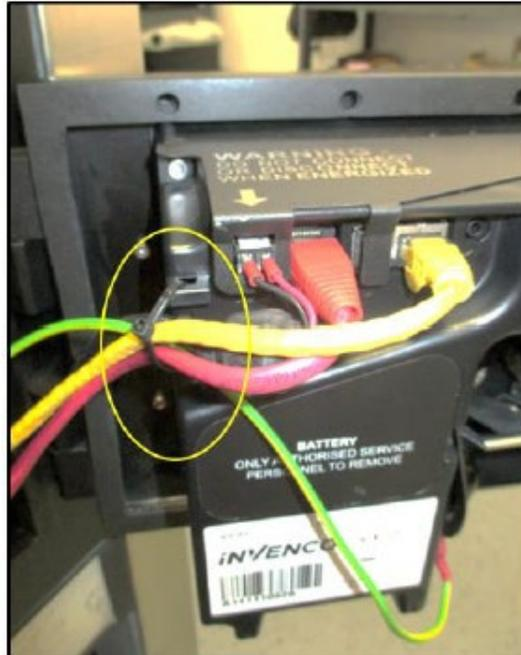

Figure 63
- 11) On side A Remove the cable tie attached to the Cable Restraint Anchor Point located to the left of the tamper prevention shield. See Figure 63.